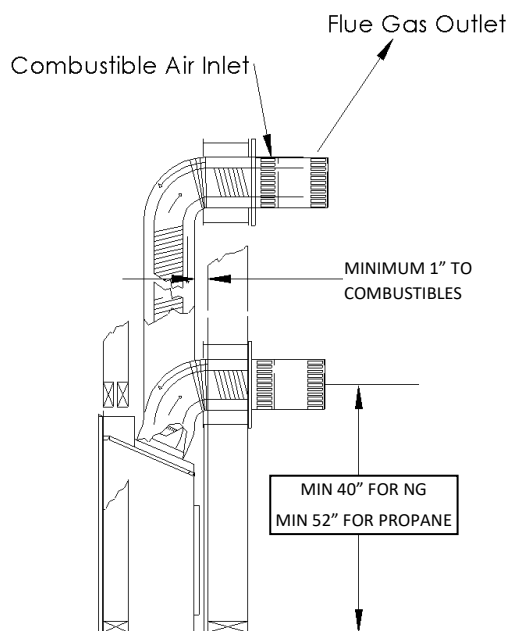

Figure 1
Place the spring spaces provided approximately every two feet to stabilize 4" flex in the center of 7" flex. When forming bends place spring in bend or before and after. (See Fig. 1). Horizontal runs require support metal straps every 2 feet. In offset installation support straps should be used to stabilize pipe.
Expand 4" and 7" flex pipe to the point that the 7" protrudes approximately 2 to 3 inches past outer wall and the 4" flex protrudes approximately 2 to 3 inches past the 7" flex. (See Fig. 1). Attach the 4" pipe to the termination first and secure with sealant and screws then attach the 7" flex to the termination with caulking and screws. Termination may then be moved back to the outer wall and attached to home screwing into the framing. Silicone around termination to waterproof. If siding shield is going to be used attach this using same attaching hole as the top of termination after termination has been caulked for water proofing.
- To install wall thimble center over 11" x 11" (inch) framing from both sides of wall and secure. Route flex vent pipe through wall thimble (See Figure 1).
- Support horizontal pipes every two (2) feet (61 cm) with metal strap bands. Re-check fireplace to make sure it is levelled and properly positioned and secured.